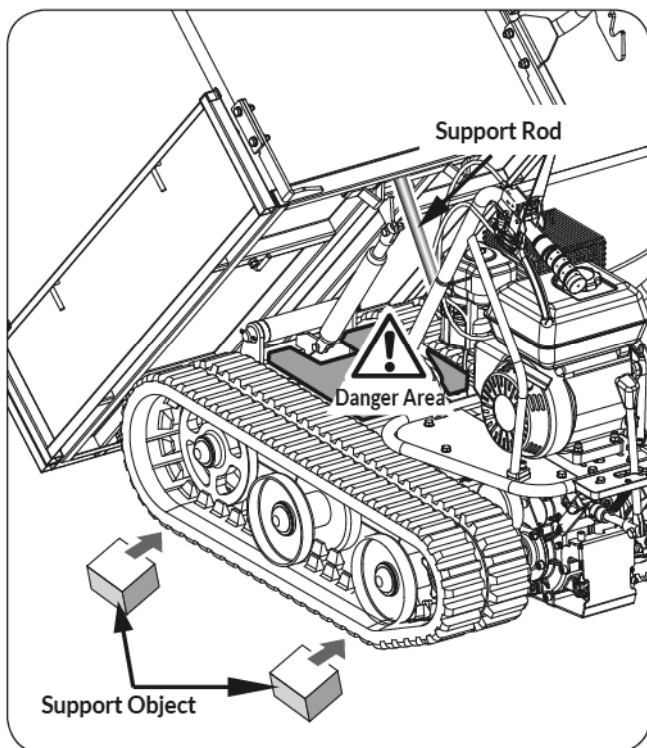

Figure 14a
2. Lift the machine and set it on blocks or supports rated for the weight of the machine so that the tracks are approximately 4" off the ground. (See **Figure 14a**)